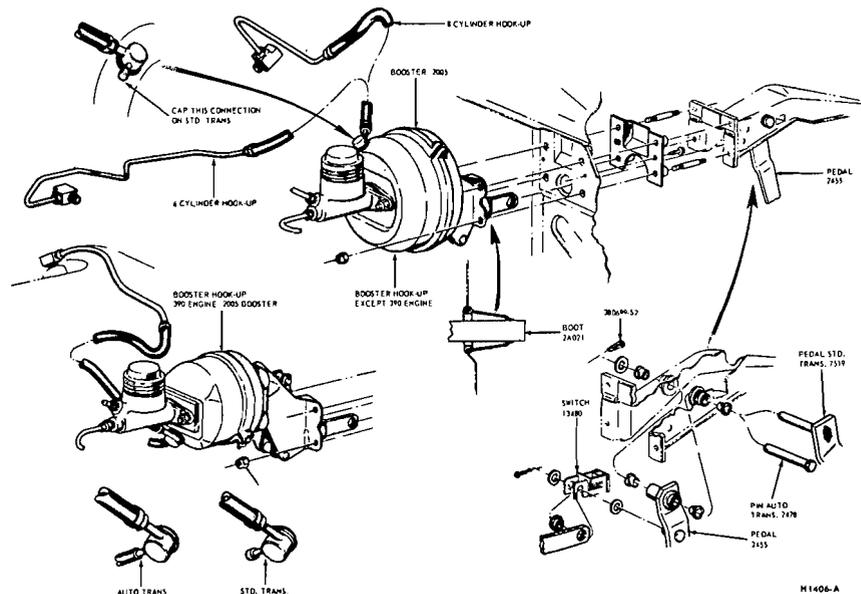

FIG. 25—Vacuum Booster Installation—Comet-Fairlane-Falcon
2. Remove the hairpin type retainer. Slide the stop light switch off the brake pedal pin just far enough for the switch outer hole to clear the pin, and then lower the switch away from the pin. Slide the master cylinder push rod link and the nylon washers and bushing off from the brake pedal pin (Fig. 25 or 26).
4. Working from inside the car, install the inner nylon washer, the master cylinder push rod link, and the bushing on the brake pedal pin. Position the switch so that it straddles the push rod with the switch slot on the pedal pin and the switch outer hole just clearing the pin. Slide the switch completely onto the pin, and install the outer nylon washer as shown in Fig. 25 or 26. Secure these